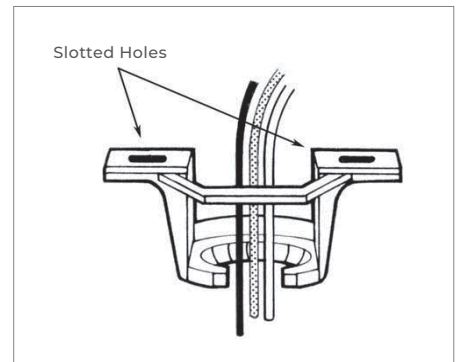

FIGURE 3
2) The mounting bracket has slotted holes to enable it to move sideways for proper alignment. Ensure the mounting bracket is centered over the j-box and that it is securely attached (Fig 3)